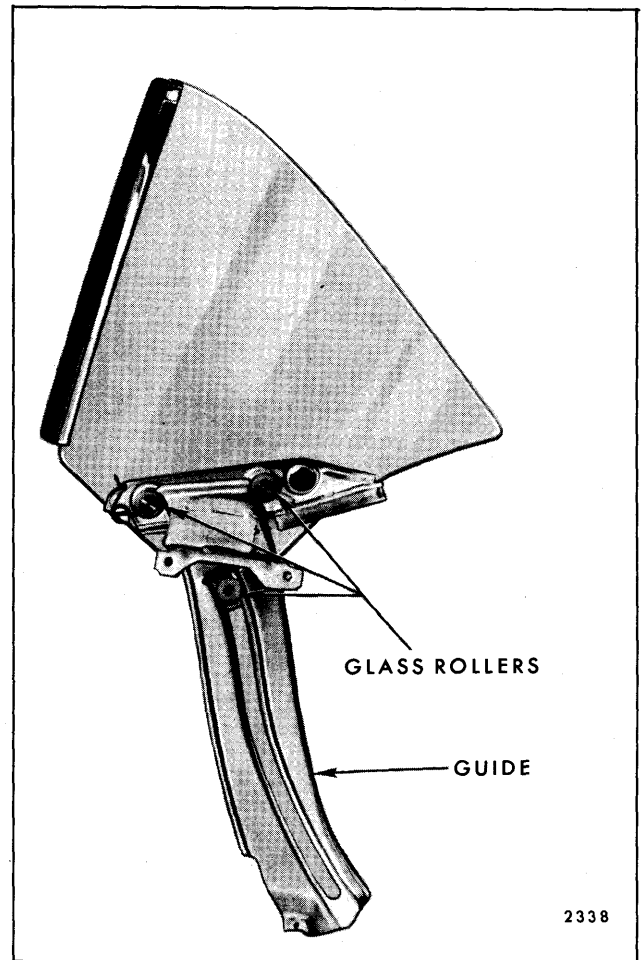
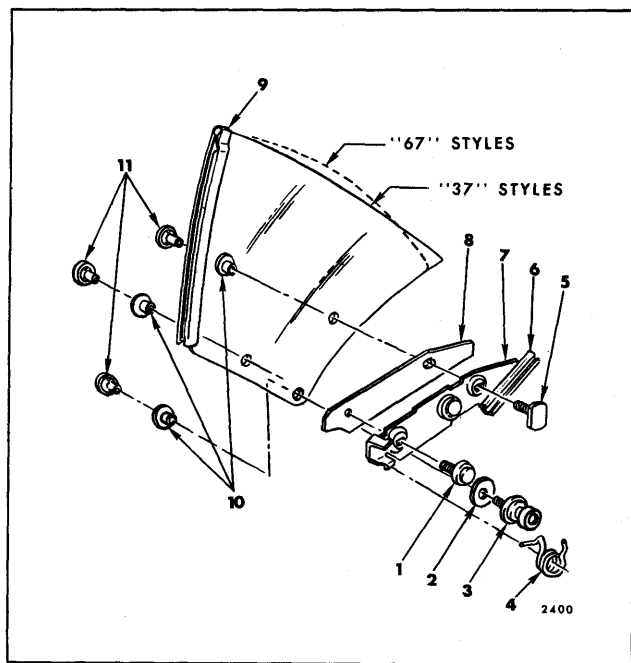
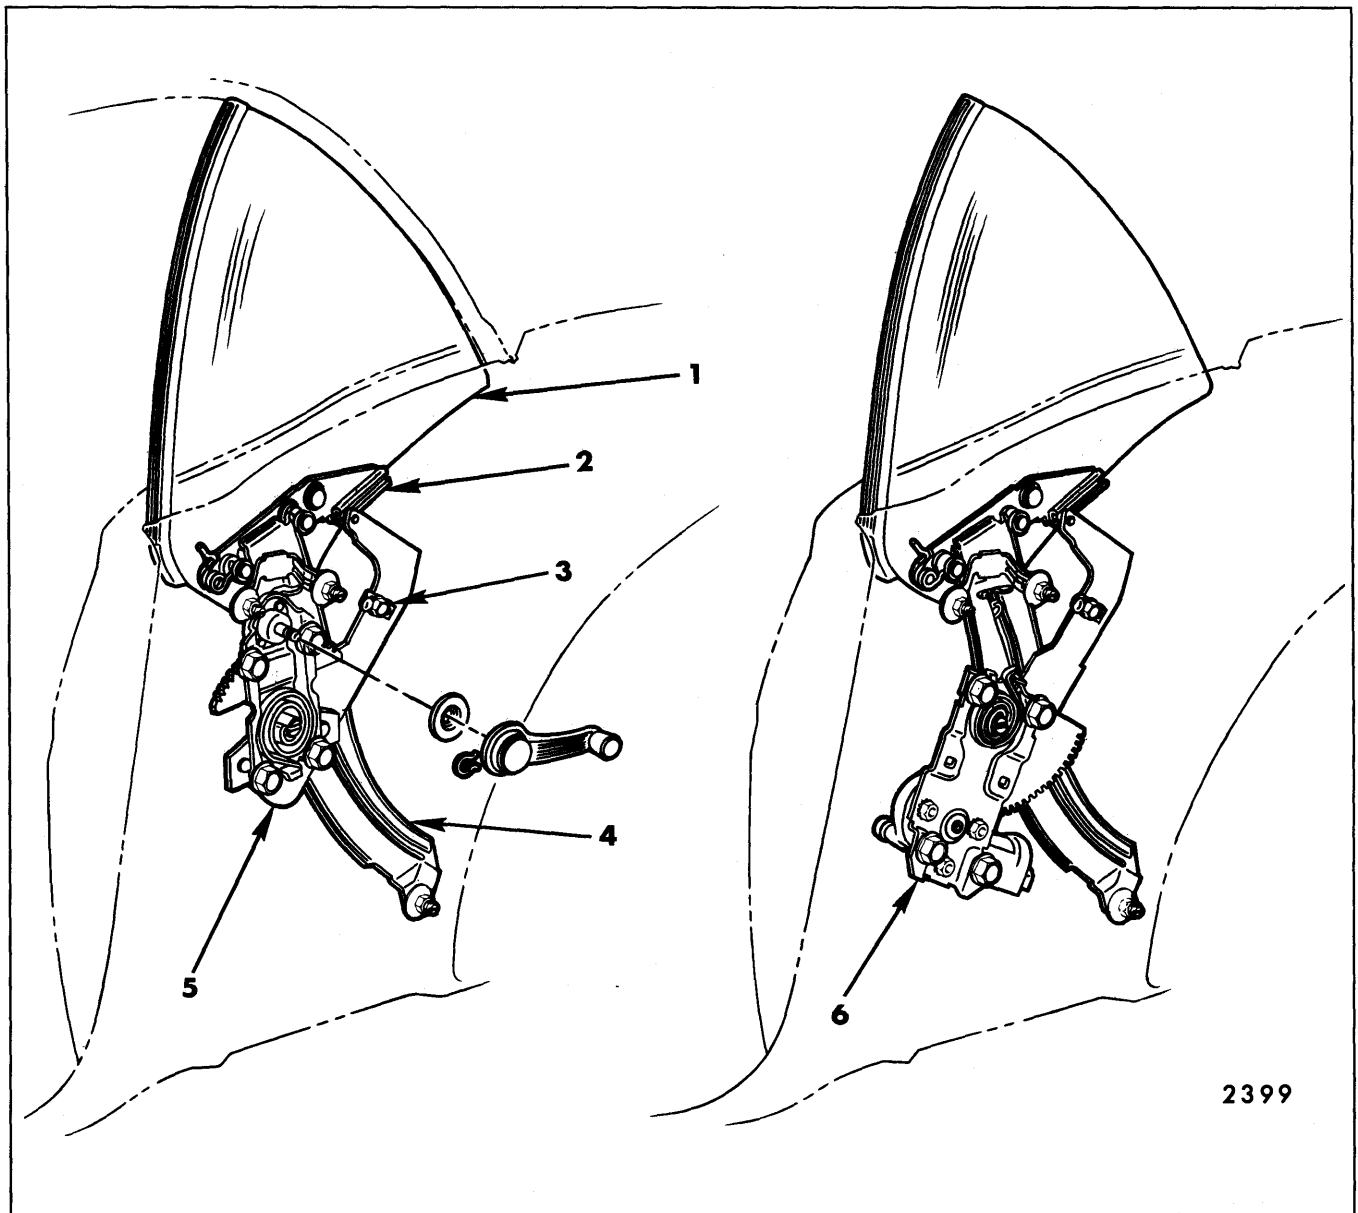

Fig. 7-19—Rear Quarter Window and Guide Assembly - "F" Styles
Fig. 7-20—Rear Quarter Window Assembly - "F" Styles
Fig. 7-21—Rear Quarter Hardware - "F" Body Styles
**NOTE:** Figure 7-19 illustrates relationship of window assembly to guide. Figure 7-20 illustrates component parts of the rear quarter window assembly. Figure 7-21 illustrates the quarter window hardware in the installed position.